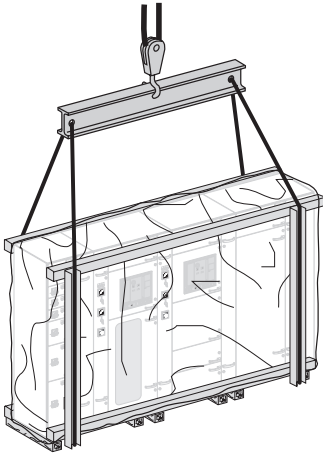

Fig. 5 : Handling joined sections.
- Use a lifting beam with direct connections to the switchboard support items (see Fig. 5).